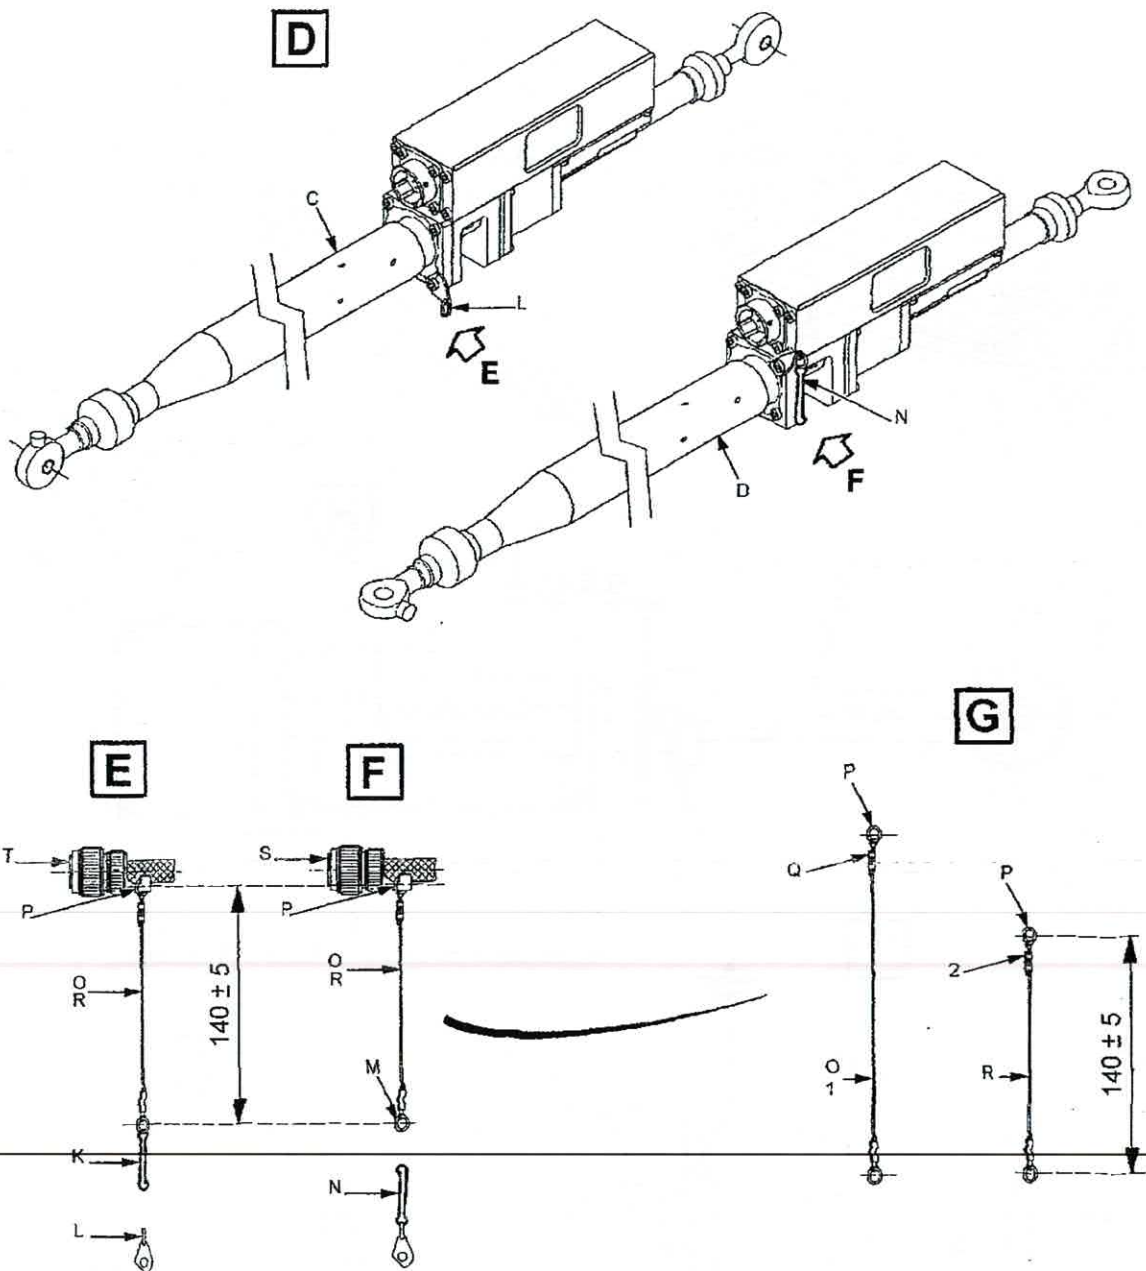

Figure 2
2.B.2. Checking the electrical connectors and the length of the nylon index cables (Figure 2)
2.B.2.c. Checking the length of nylon index cables (O) (Figure 2)
2.B.3. Setting nylon index cables (O) or (1) to length (Figure 2)